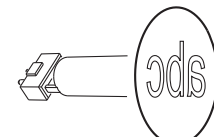
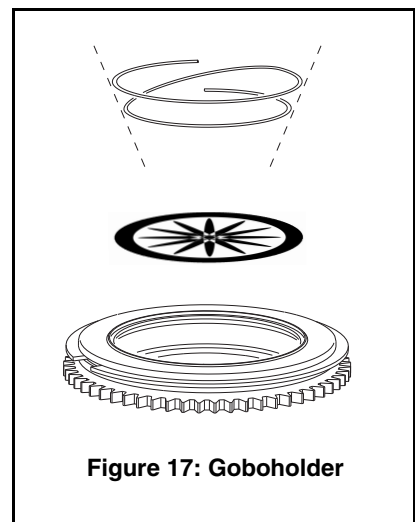

Figure 13. Correct gobo orientation
Figure 17: Goboholder
The orientations shown in Figure 13 are correct in most cases, but consult your Martin® dealer or gobo supplier if you are in any doubt about the orientation of a specific gobo type.
Correct gobo orientation is critical. Read the guidelines in Figure 13 carefully before installing a gobo.
- See Figure 17. With a small screwdriver or similar, unhook the end of the gobo spring furthest from the gobo and pull out the spring. Drop the gobo out of the holder onto a clean, soft surface.
- Insert the new gobo in the holder with that must face towards the lamp – the more reflective side – facing upwards towards the spring (see Figure 17 and Figure 13).
11. Insert the spring with the narrow end against the gobo, as shown in Figure 17. To identify the narrow end, press the spring flat: the narrow end is on the inside. Push the wide end of the spring in under the lip of the holder.